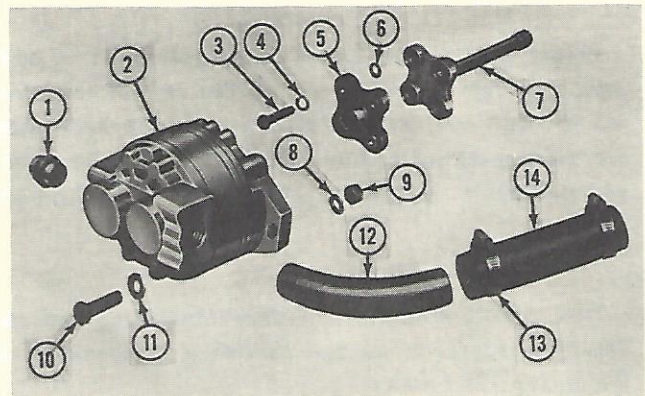

Figure 4
The Hydraulic Kit, Component 19-338, consists of the following parts. See Figure 4.
1. Attach the coupling assembly (5), Figure 4, to the pump drive shaft (7) with the four $7/16'' \times$
- c. If the pump drive shaft slides more than 1/4", it will be necessary to install the four 29/64" diameter spacer washers (6), Figure 4, between the coupling assembly and the pump drive shaft assembly.